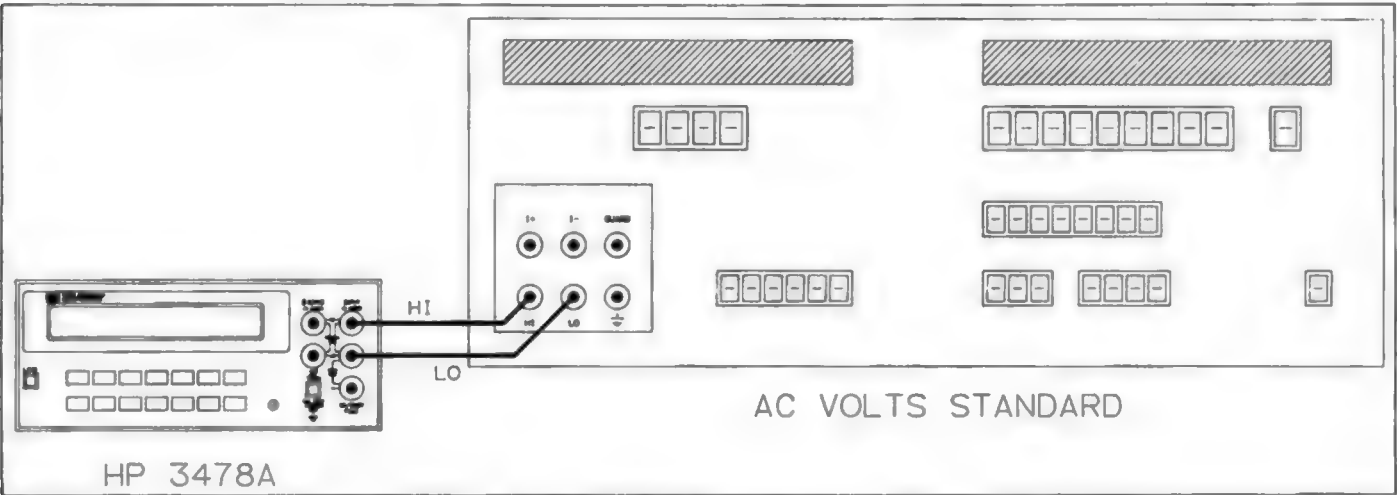

Figure 4-5. AC Voltage Test and Calibration Connections.
c. Connect the AC Volts Standard output to the 3478A HI and LO INPUT terminals as shown in Figure 4-5. Set the AC Volts Standard for an output of 0.028V at 20KHz.